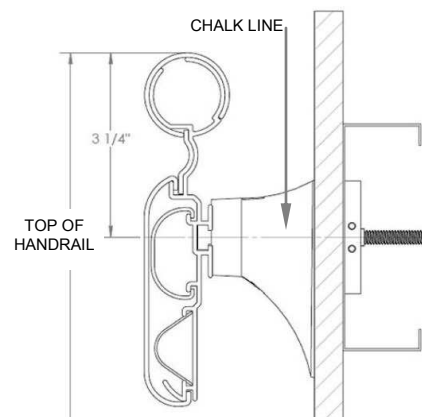

Figure 2
**STEP 1.** Using the correct plans, layout guides and local code requirements layout and mark the location of the handrail on the wall at the appropriate height above the finished floor. Measure 3-3/4" down from the desired top of the handrail and mark this location at each end of the run (See Figure 2). Snap a chalk line, or use a laser level to mark the height of the standoff fasteners.